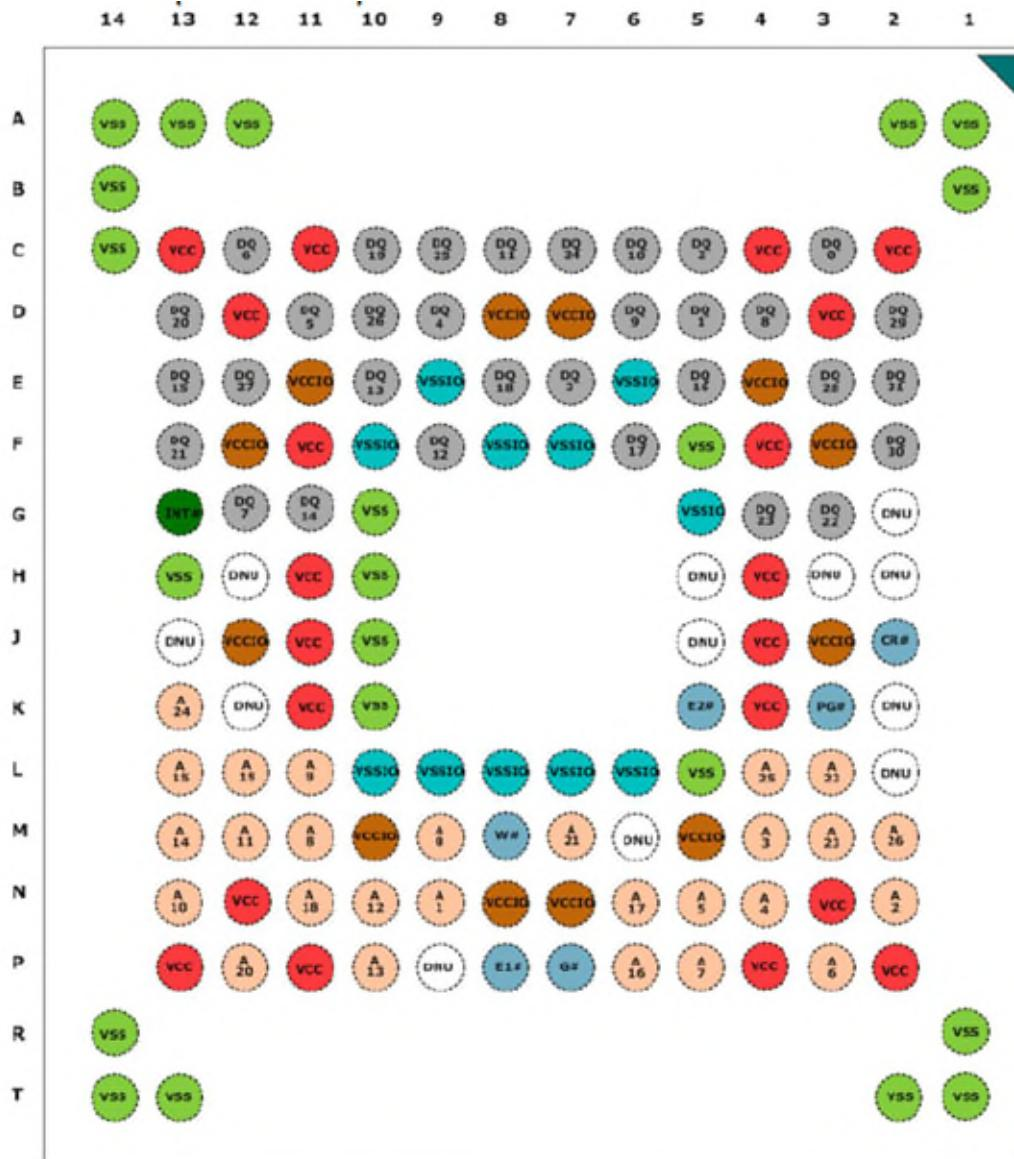

Figure 5: 142-ball FBGA – 8Gb
- The device must not be selected at power-up (a 10KΩ pull-up Resistor to VCCIO on E# is recommended). Then a further delay of tPU (Figure 5) until VCC reaches VCC(minimum) .